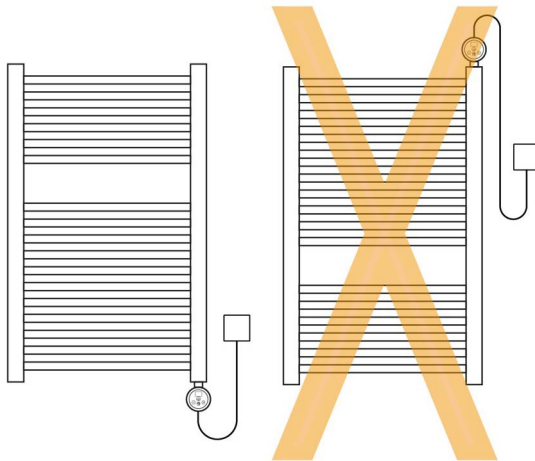

Figure 2 | Correct and incorrect installation positions of the element
2. Identify the inlet where the element will be fitted in the towel rail. The element is fitted vertically, in the bottom left or right vertical strut. Never fit the element at the top of a towel rail or in horizontal towel rails (**Figure 2**).